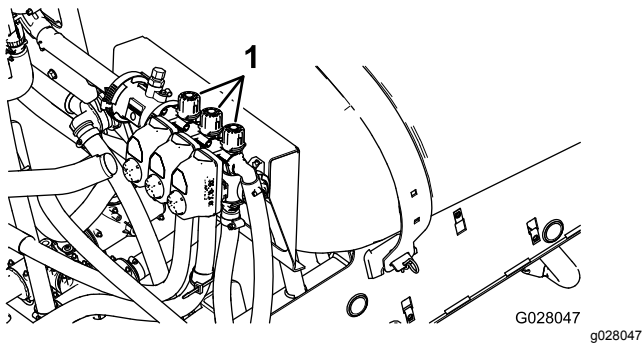

Figure 17
- Turn off the left boom and adjust the boom bypass knob (Figure 17) until the pressure reading is at the previously adjusted level (typically 40 psi or 2.75 bar).
13. Adjust the right boom bypass knob (Figure 17) until the pressure reading is at the previously adjusted level (typically 40 psi or 2.75 bar).
15. Adjust the center boom bypass knob (Figure 17) until the pressure reading is at the previously adjusted level (typically 40 psi or 2.75 bar).